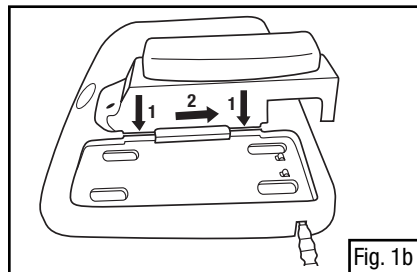

Fig. 1b
- o Insert the TR-340 into one of the charging ports on the TR-944N and slide back to lock into place (Fig. 1b).
- o Insert the battery pack into the TR-340 cradle as described above. (**Note:** the TR-941N power cord is not used with the TR-340, when the 4 Station Charger is used). Ensure the power cord supplied with the TR-944N kit is plugged into the 4 station base. You may charge any combination of up to (4) TR-330 or TR-332 battery packs simultaneously.